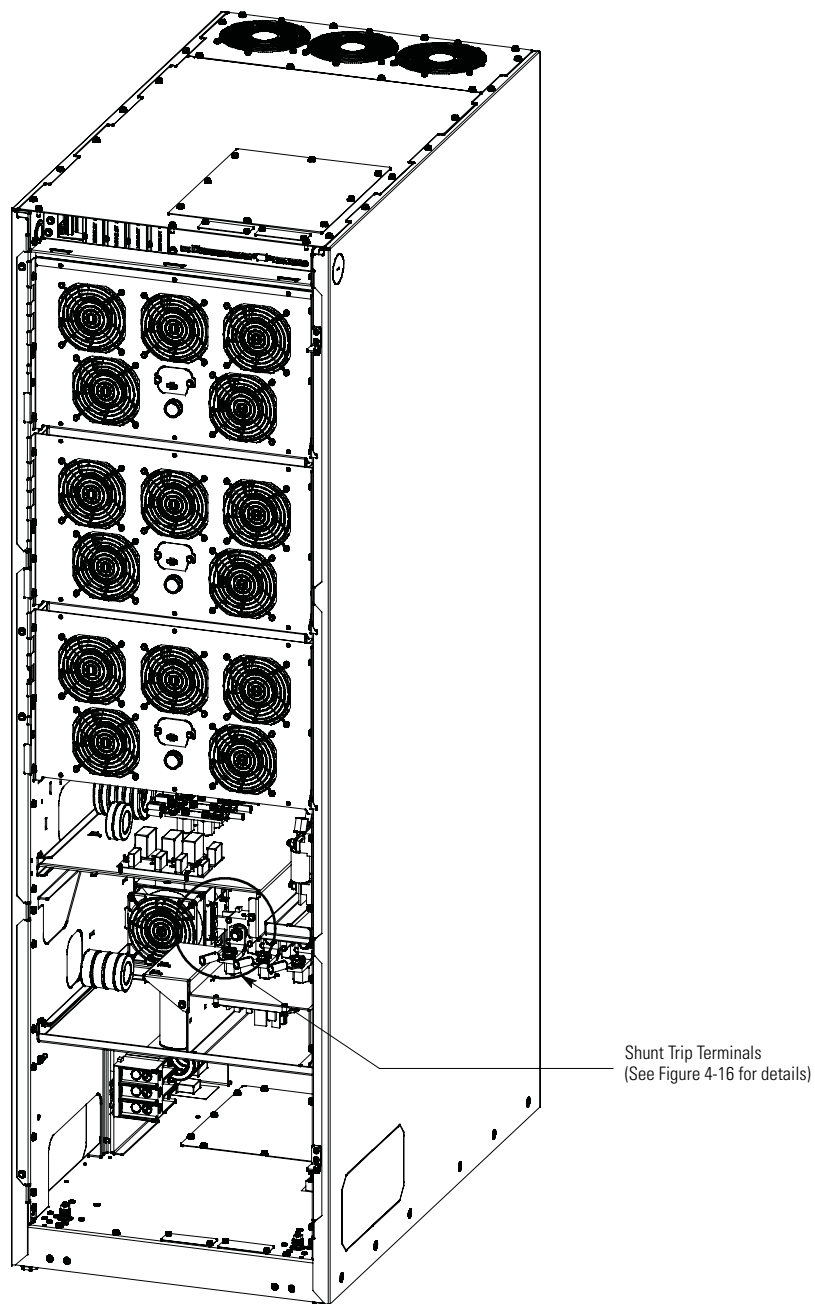
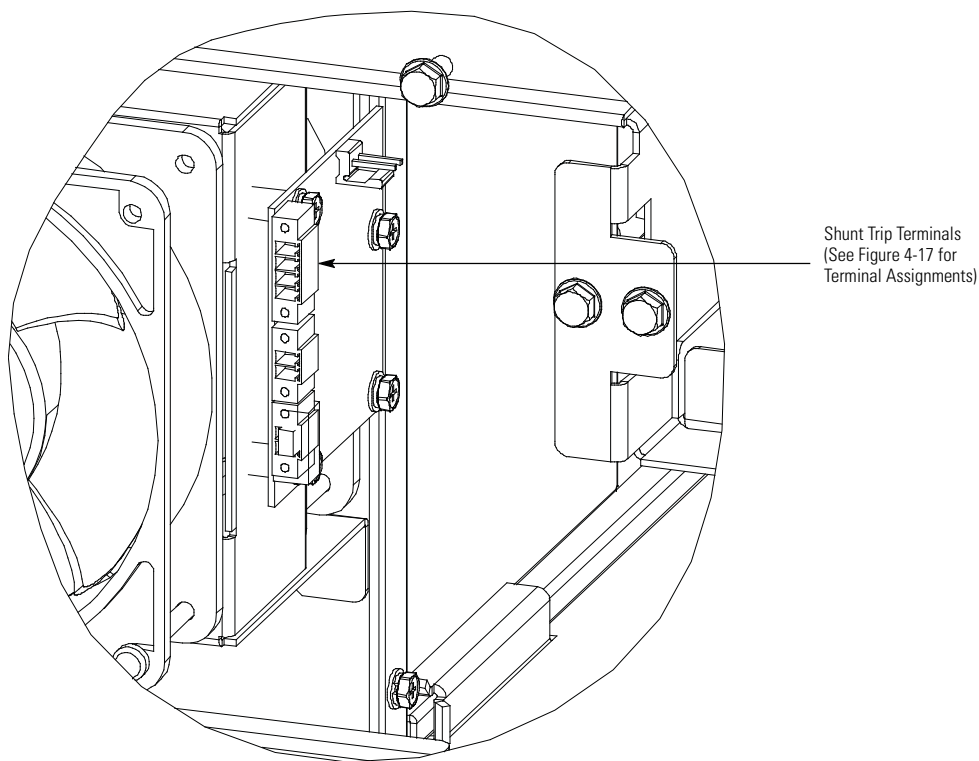

Figure 4-15. Battery Shunt Trip Locations
Figure 4-16. Battery Shunt Trip Terminal Detail
6. **Pass-through Wiring.** Route the battery shunt trip wiring from the battery cabinet through the bottom UPS inter-cabinet wiring access pass-through and static switch shelf bushing to the UPS battery shunt trip terminals. See Figure 4-6 for UPS wiring access information and Figure 4-15 and Figure 4-16 for UPS terminal locations. Refer to the *Eaton 93PM Integrated Battery Cabinet Installation Manual-Large and Large High Rate*, listed in paragraph 1.8 for battery cabinet wiring access information and instructions.
8. **Bottom Entry Wiring.** Route the battery shunt trip wiring from the battery cabinet or battery disconnect through the bottom of the UPS and static switch shelf bushing to the UPS battery shunt trip terminals. See Figure 4-4 for UPS wiring access information and Figure 4-15 and Figure 4-16 for UPS terminal locations. Refer to the *Eaton 93PM Integrated Battery Cabinet Installation Manual-Large and Large High Rate*, listed in paragraph 1.8 for battery cabinet wiring access information and instructions.
10. **Top Entry Wiring.** Route the battery shunt trip wiring from the battery cabinet or battery disconnect through the top of the UPS sidecar and the bottom UPS inter-cabinet wiring access pass-through and static switch shelf bushing to the UPS battery shunt trip terminals. See Figure 4-5 and Figure 4-6 for UPS wiring access information and Figure 4-15 and Figure 4-16 for UPS terminal locations. Refer to the *Eaton 93PM Integrated Battery Cabinet Installation Manual-Large and Large High Rate*, listed in paragraph 1.8 for battery cabinet wiring access information and instructions.